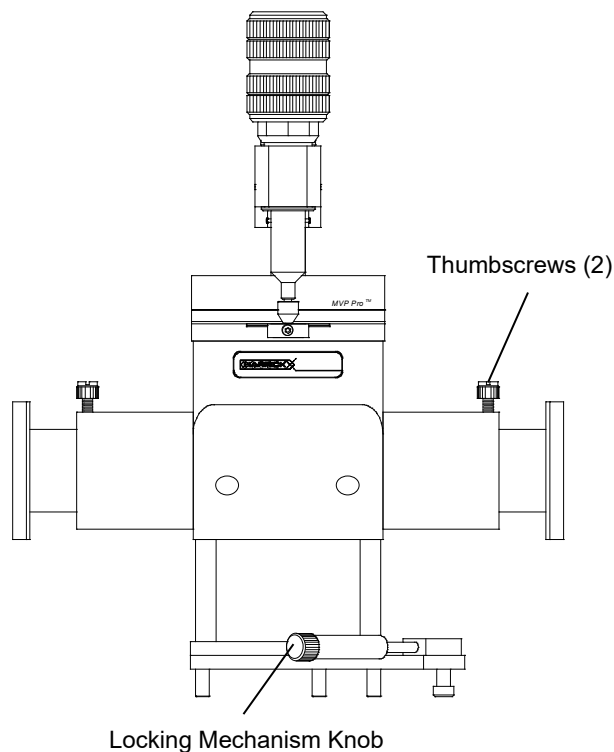

Figure 4 • Locking the MVP-Pro™
- Place the MVP-Pro™ on the kinematic plate with the logo facing forward (Figure 4).